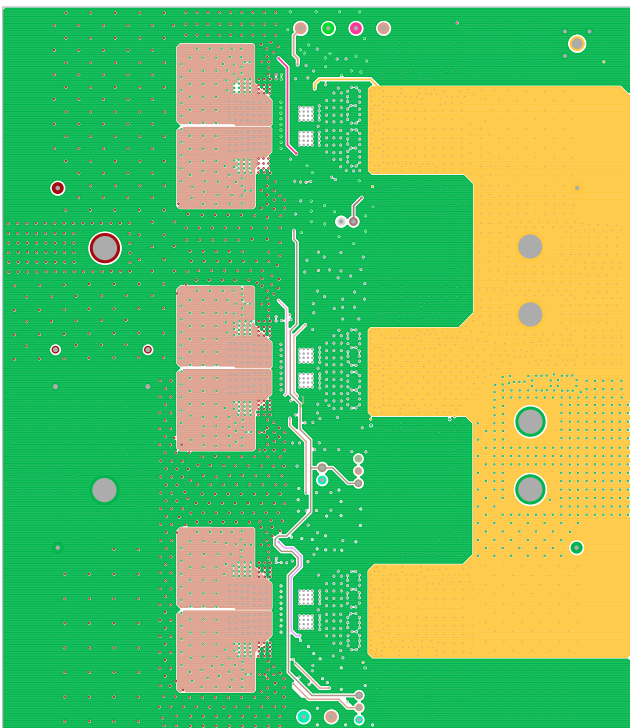

FIGURE 11. LAYER 5
2. Phase 1 and Phase 2 pads are switching nodes that generate switching noise. Keep these pads under the module. For noise-sensitive applications, it is recommended to keep phase pads only on the top and inner layers of the PCB; do not place phase pads exposed to the outside on the bottom layer of the PCB. To improve the thermal performance, the phase pads can be extended in the inner layer, as shown in Phase 1 and 2 pads on layer 3 (Figure 11) for this 90A evaluation board. Make sure that layer 2 and layer 4 have the GND layers to cover the extended areas of phase pads at layer 3 to avoid noise coupling.